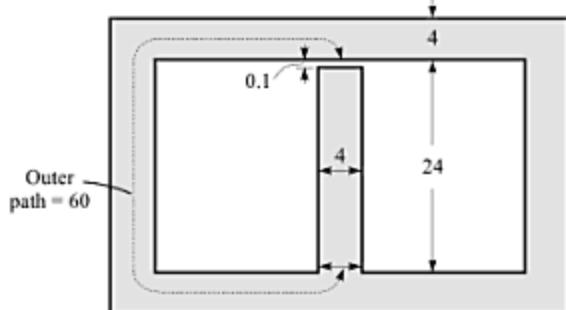

Fig. B-13
- B-71.** A 680-turn coil is wound on the central limb of the cast steel frame of square cross-section, shown in Fig. B-13. All the dimensions are given in cm. A flux of  $1.6 \text{ mWb}$  is required in the air gap. Assuming the permeability of cast steel to be 1200, calculate the value of the required exciting current.